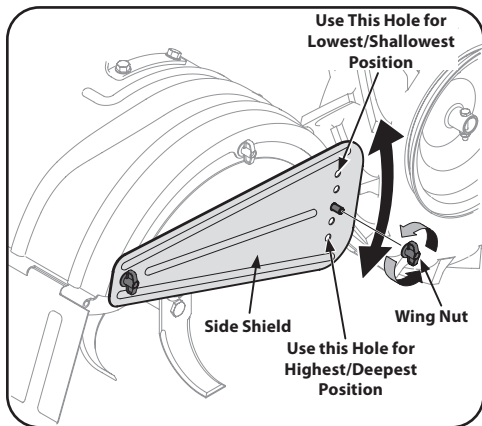

Figure 3-5
2. When breaking up sod and for shallow cultivation, use the setting which gives 1" of tilling depth (second hole from the top). Place the side shields in their lowest position. See Figure 3-5.
7. To adjust the side shields, remove the wing nuts. Move the side shield to the desired position and replace the wing nuts. Tighten securely. See Figure 3-5.